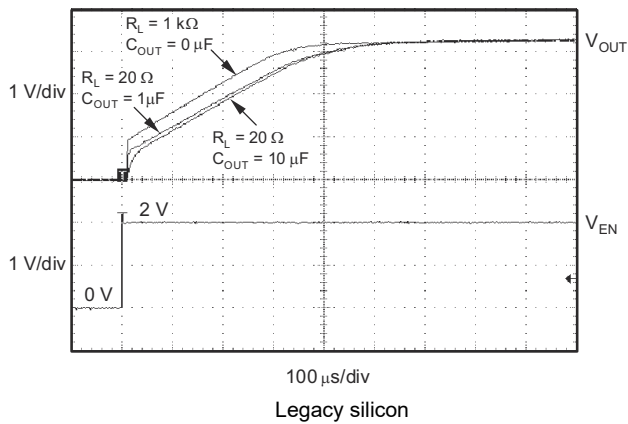

Figure 5-39. TPS73233 Turn-On Response
The enable pin (EN) is active high and is compatible with standard TTL-CMOS levels. A V_{EN} below 0.5V (maximum) turns the regulator off and drops the GND pin current to approximately 10nA. When EN is used to shut down the regulator, all charge is removed from the pass transistor gate. A V_{EN} above 1.7V (minimum) turns the regulator on and the output ramps back up to a regulated V_{OUT} (see Figure 5-39).